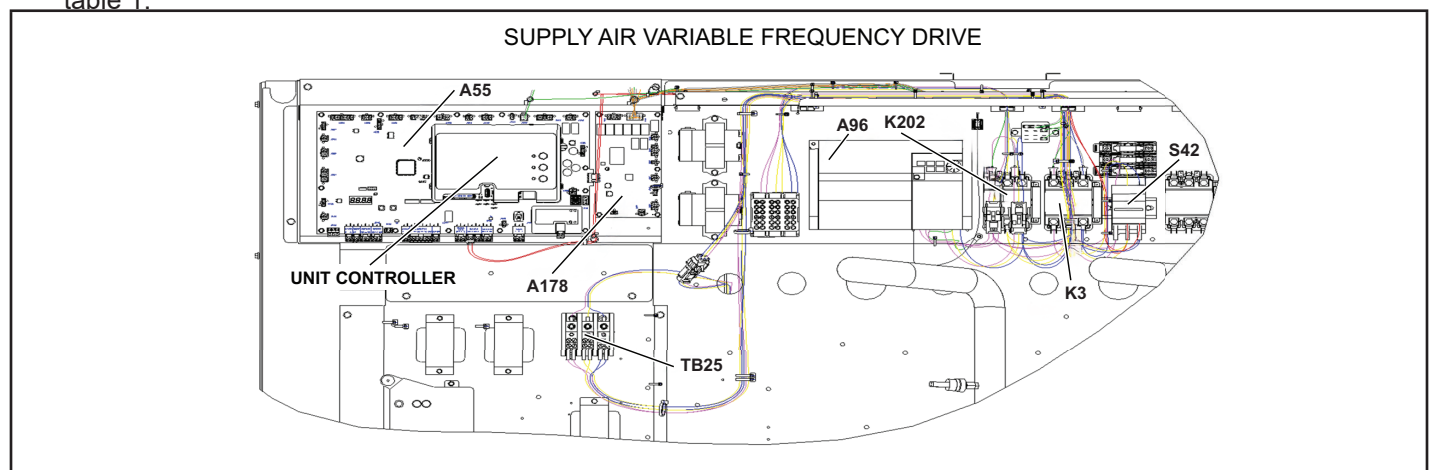

FIGURE 37
- 5 - Locate VFD control relay K203 on the lower control panel. See FIGURE 37.